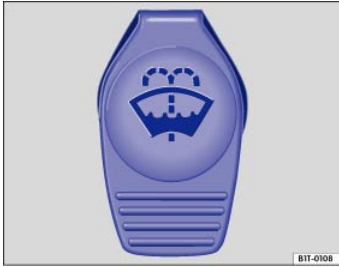

Fig. 93 In the engine compartment: Cap of the windshield washer fluid reservoir.
- The windshield washer fluid reservoir can be identified by the symbol on its cap ⇒ Fig. 93.